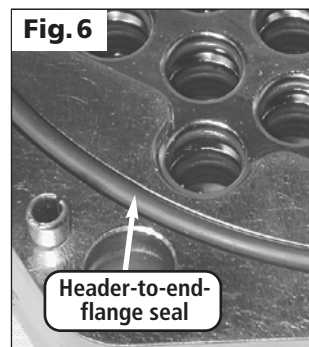

Fig. 6
9. Remove the header-to-end-flange seal and clean all sealing surfaces. Be very careful not to mar any of these surfaces. **Fig. 6**